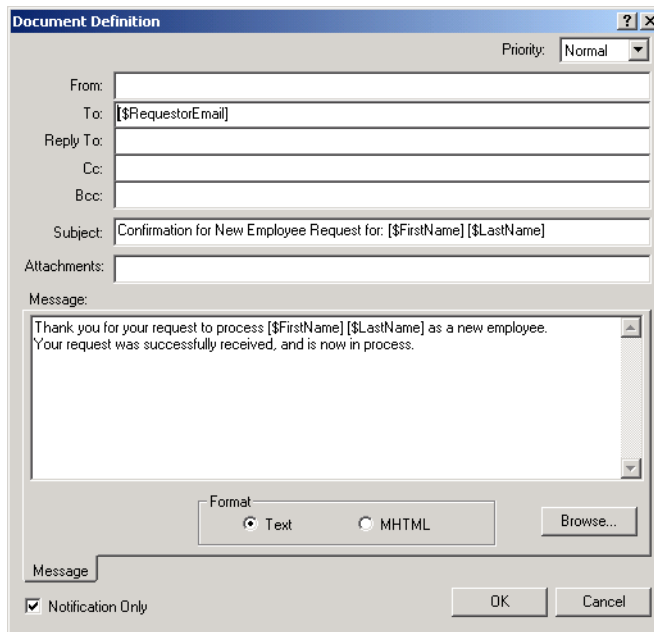

Figure 33-5. Task with associated e-mail information.
- ④ In the **Subject** field, type the e-mail’s subject.
- ⑤ In the **Message** field, type the body of the message.
- ⑥ If you wish to attach a data element holding some value, simply drag and drop it in the **Attachment** field. Note, however, that you cannot send a document as an attachment to an e-mail.
- ⑦ If you wish, you can set the priority level of this e-mail.
- ⑧ Now, you could use data elements where appropriate in the body of the message. Your outgoing e-mail might look something like the one in Figure 33-5, below.